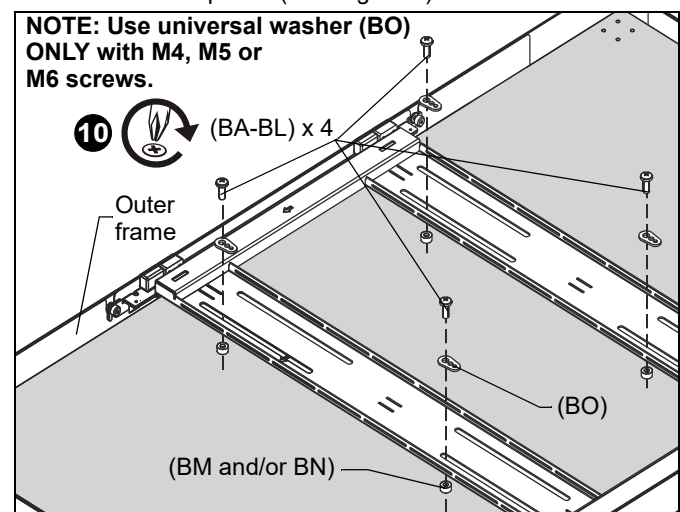

Figure 9
**IMPORTANT ! :** The M8 screws do **NOT** require a washer. Use the universal washer (BO) **ONLY** with the M4, M5 or M6 screws.
9. Place hinged frame onto back of flat panel and match the VESA pattern on flat panel to the hinged frame mounting slots. Also match the threaded studs in outer frame to the hooks on the hinged frame. (See Figure 9)
10. Use selected screws (BA-BL), washers (BO--if required), and spacers (BM, BN--if required), to connect hinged frame to back of flat panel. (See Figure 9)